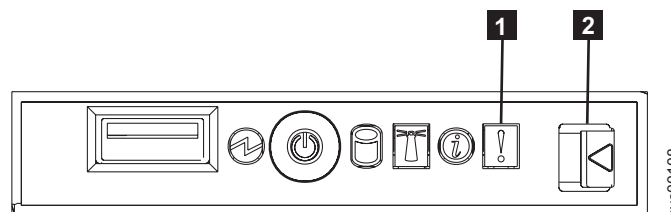

Figure 59. SAN Volume Controller 2145-8F4 operator information panel
- Is the Error LED on the SAN Volume Controller 2145-8F2 or the SAN Volume Controller 2145-8F4 operator panel illuminated or flashing? See Figure 59.